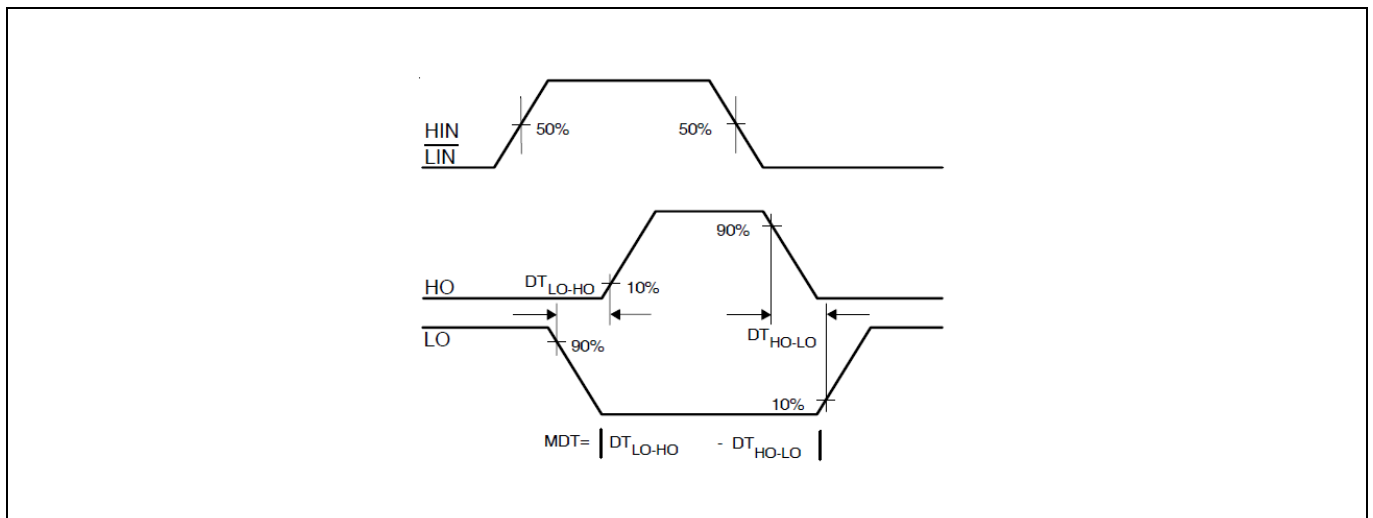

Figure 8 Deadtime matching waveform definition
The deadtime circuitry of 2ED2108 (4) S06F (J) is matched with respect to the high- and low-side outputs. Figure 8 defines the two deadtime parameters (i.e.,  $DT_{LO-HO}$  and  $DT_{HO-LO}$ ); the deadtime matching parameter (MDT) associated with the 2ED2108 (4) S06F (J) specifies the maximum difference between  $DT_{LO-HO}$  and  $DT_{HO-LO}$ .